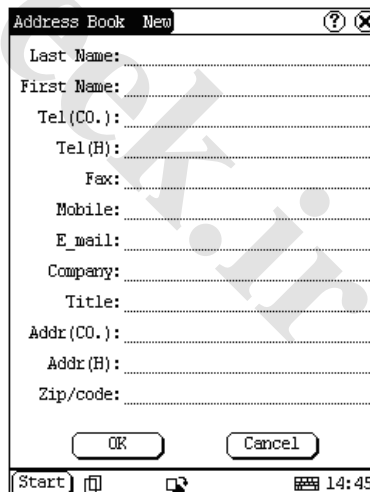

Figure 4-23
- 1) In the Address Book interface, click [New] button to open the Address New interface. (See Figure 4-23)